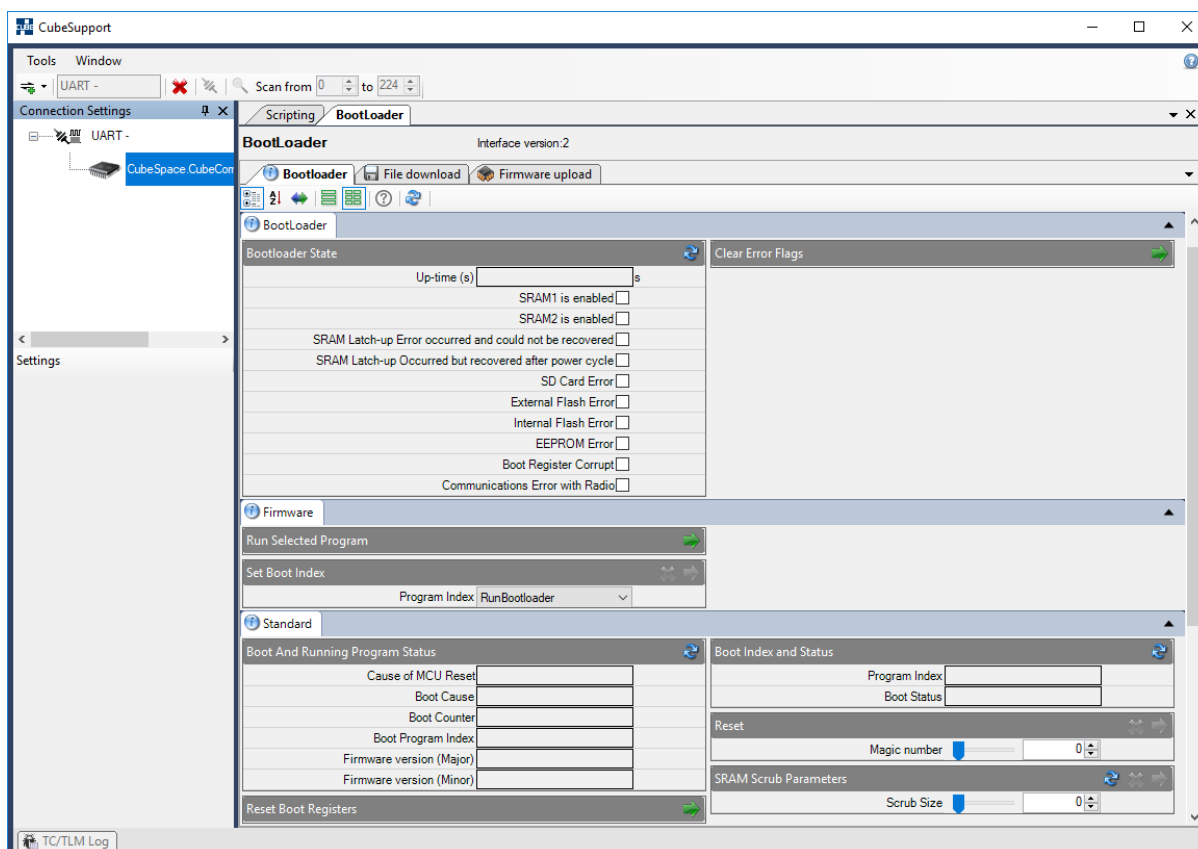

Figure 32: Gen1 CubeComputer bootloader user interface
When connecting to a Gen1 CubeComputer while the bootloader is running, and the bootloader respond to the identification telemetry request, the user interface in Figure 32 is displayed.
3. Connect to the CubeComputer. The CubeSupport user interface should display the bootloader interface as shown in Figure 32.